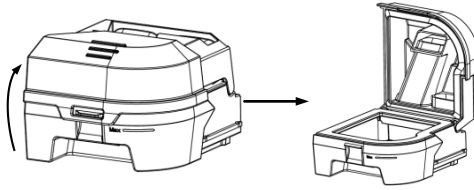

Fig. 17-1
(1) **Opening the Water Chamber:** Open the cap of the water chamber, as shown in Fig. 17-1.